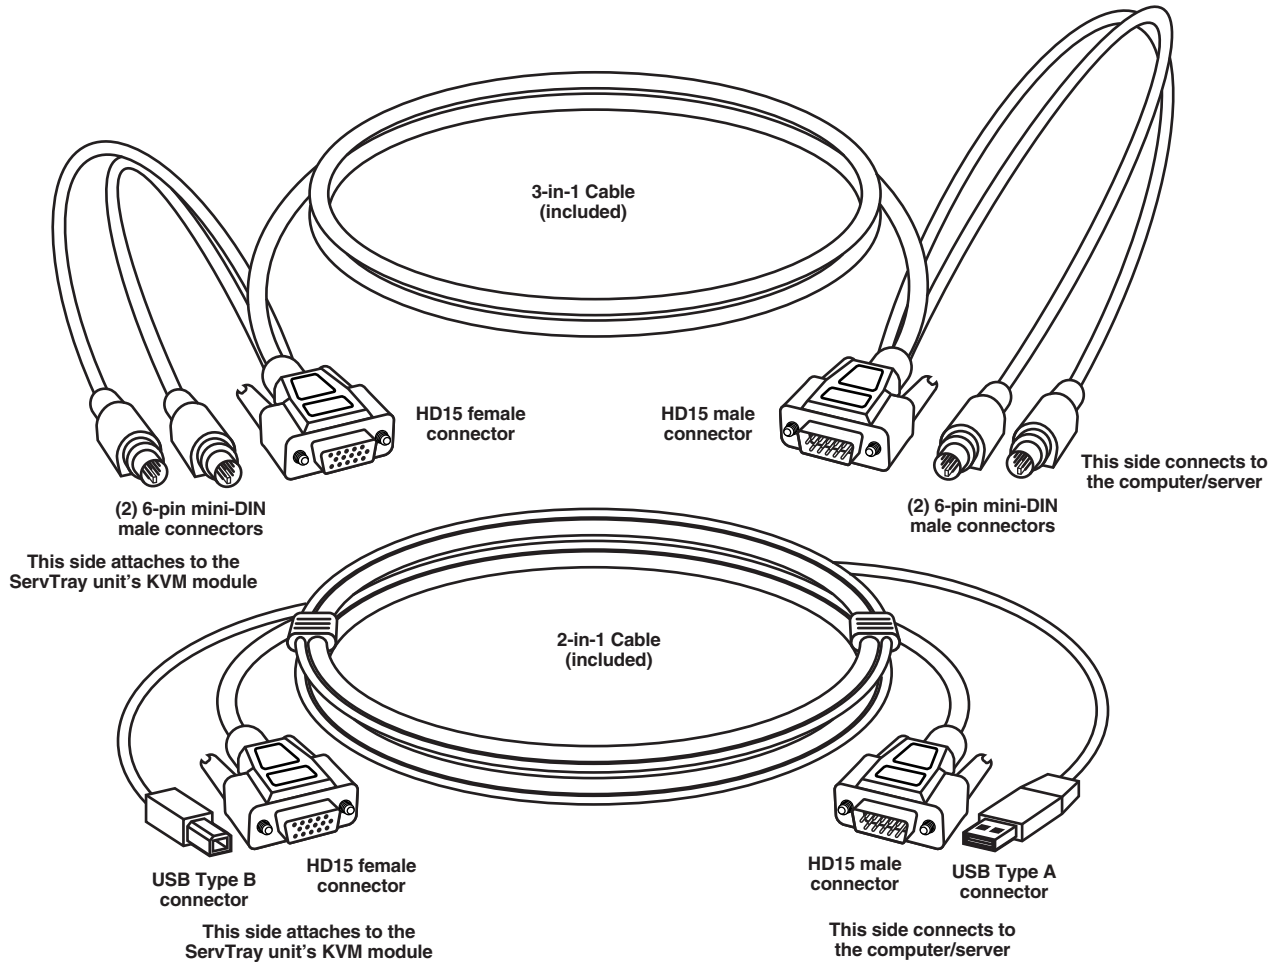

Figure 3-9. Cable for connecting the KVM module to a computer.
13. Once the ServTray is installed in the 4-post rack or cabinet, you can connect it to a computer. The KVM module's connectors attach to the KVM connectors on a PS/2 CPU via the 3-in-1 (PS/2, PS/2, VGA) Cable (included) or they connect to the HD15 and keyboard/mouse connectors on a USB CPU via the 2-in-1 (USB, VGA) cable (included). Both cables are shown in Figure 3-9.